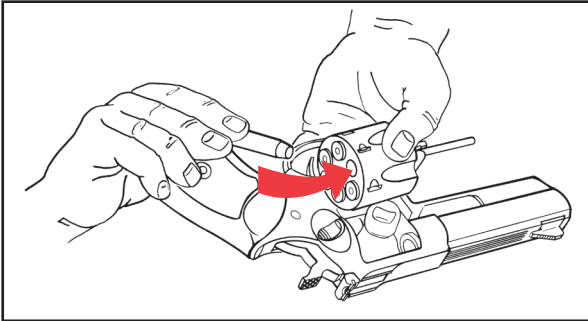

Figure 8
1. Press the crane latch and guide cylinder out of frame to the left to its loading position (See Figure 8).